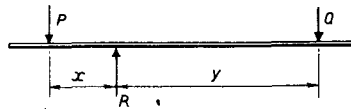

Fig. 2.49
10. Complete the missing information in the table opposite (refer to Fig. 2.49).